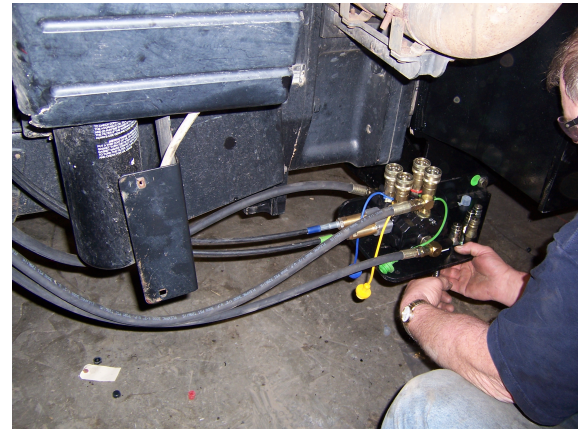

Fig 1-2
3. Once that has been done attach the valve plate (Part #8) onto the RH side of the belly bracket. Secure with two 5/8" x 2 1/4" HH cap screws, lock washers and nuts (Part #20, 25 & 28). **See in Fig. 1-2.**